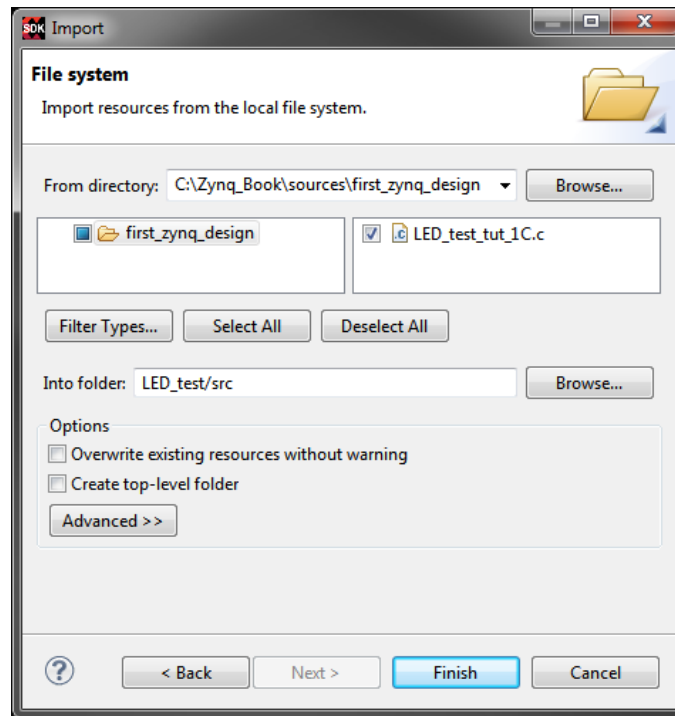

Figure 1.27: Import C Source File
- (h) Select the file **LED_test_tut_1C.c**, as shown in Figure 1.27, and click **Finish**.